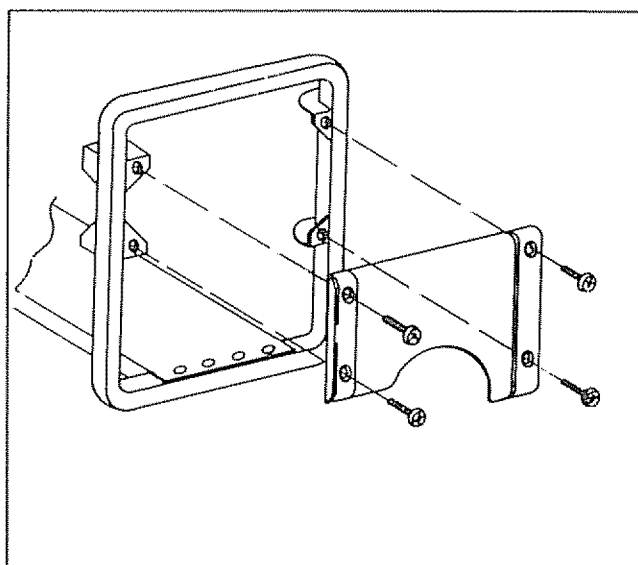

Figure 3-2. Remove End Panel
3.3- SERVICE AIR CLEANER (Figure 3-2, 3-3)